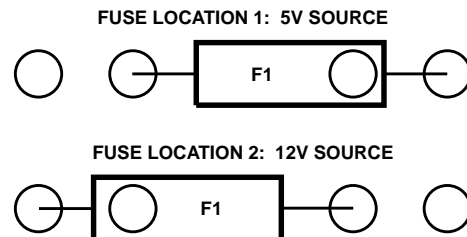

FIGURE 2. INPUT FUSE LOCATION vs INPUT SOURCE VOLTAGE
The HIP6004EVAL1 VRM is able to run off either +5VDC or +12VDC main power source. In either case, +12V is required for the bias supply of the HIP6004. The HIP6004EVAL1 is configured to accept a 5V source, as shown in Figure 2. The three approaches for powering the VRM from +12V are:
3. Move F1 fuse as shown in Figure 2 and apply +12Vin (for system implementation).